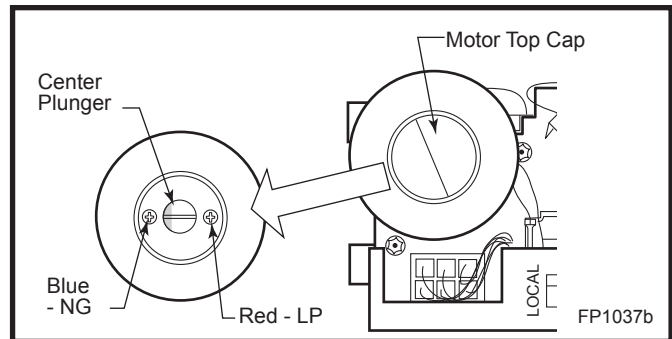

Fig. 84 Depress and turn center plunger.
4. Remove motor top cap. Depress and turn center plunger until arrow points to correct screw. Red for LP and Blue for NG. **NOTE:** Plunger will "snap" into NG position when arrow is close to blue screw. It will not "snap" at LP (Red) position. (Fig. 84)